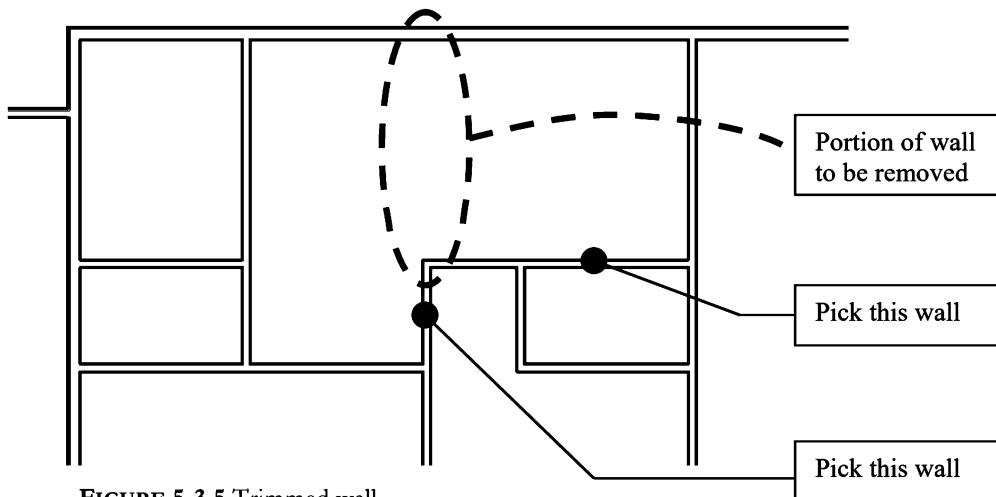

FIGURE 5-3.5 Trimmed wall
8. Select the two walls identified in Figure 5-3.5.